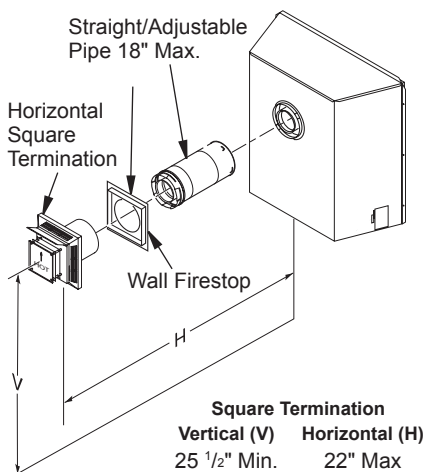

Figure 18 - Horizontal Termination Configuration for Flush Installation (Model (V)CD36R)
1. Set the fireplace in its desired location and determine the route your horizontal venting will take. Do not secure the fireplace until all venting has been installed. Some installations require sliding the fireplace in and out of position to make final venting connections. Figures 18 through 25 on pages 13 through 16 show different configurations for venting with horizontal termination that will help you decide which application best suits your installation. Check to see if wall studs or roof rafters are in the path of your desired venting route. If they are, you may want to adjust the location of the fireplace.
Figures 18 through 25 show different configurations and alternatives for venting with horizontal termination. Each figure includes a chart with critical minimum and maximum dimensions which **MUST** be met. **IMPORTANT:** Remember that a horizontal run of venting must have a 1/4" rise for every 12" of run toward the termination.